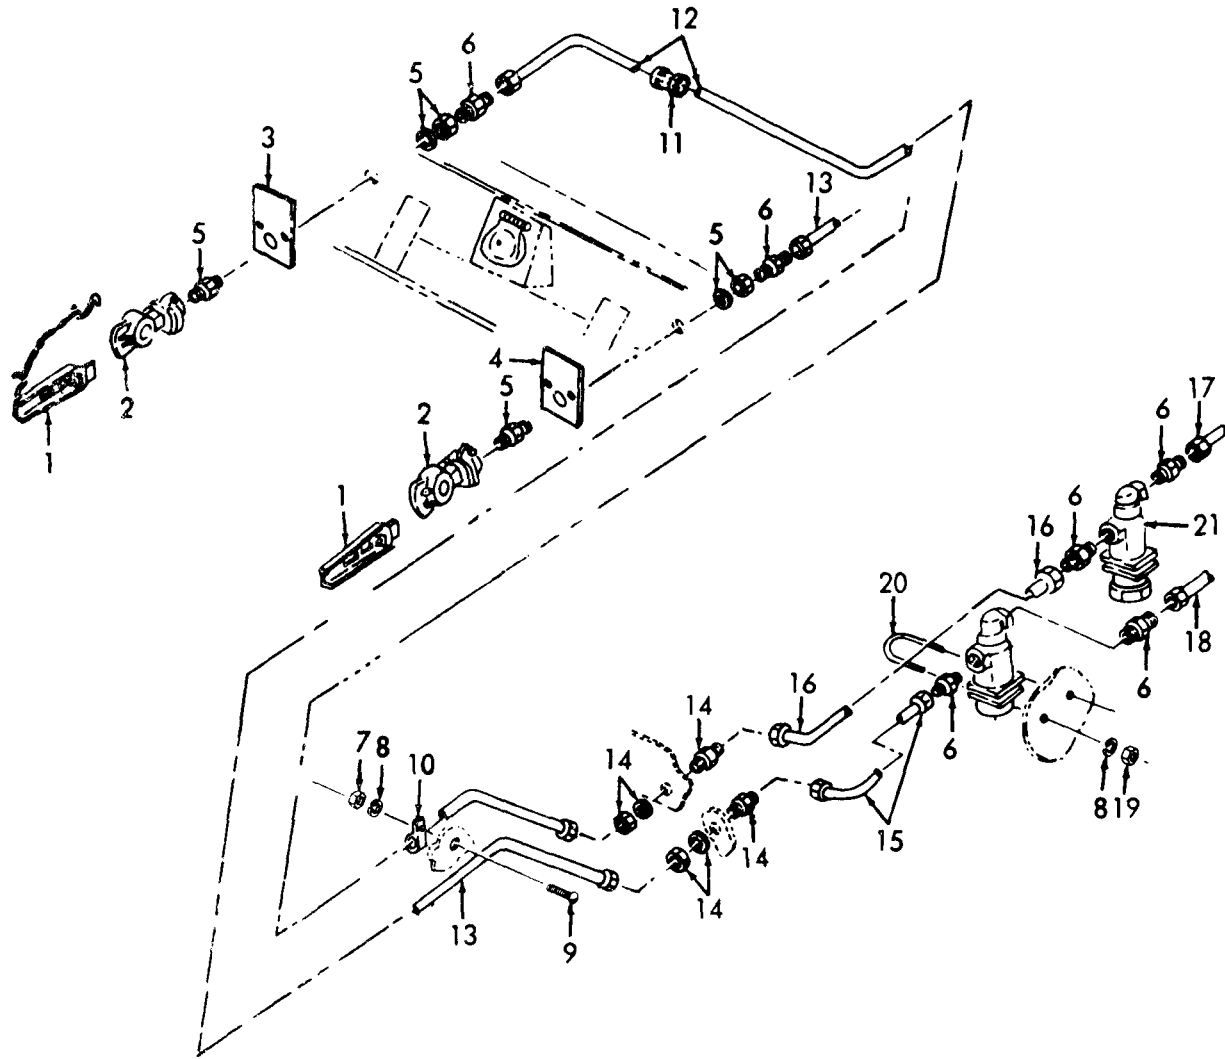

Figure 19-5. Front Air Brake Lines and Air Filter.
- (1) Install the brackets (5) in the frame and secure with hardware.
- (2) Install the air reservoir tank (9) in the brackets and secure with nuts (1), washers (2), and bolts (3).
- (3) Connect the air lines (6) to the tank and install the draincock (11).
- (4) Test the airbrake system for leaks.
- a. Removal. Remove the brake lines and fittings as necessary. Pay particular attention to rubber hoses and gaskets in the four airbrake couplings at the front and rear of shop set (Refer to figures 19-5 and 19-6).
- (1) Clean parts with cleaning solvent and dry thoroughly.
- (2) Inspect for rust, corrosion, and defects, and replace defective parts as necessary.
- c. Installation. Install the brake lines and fittings as necessary. check for leaks (Refer to figures 19-5 and 19-6).
## LEGEND FOR FIGURE 19-5: